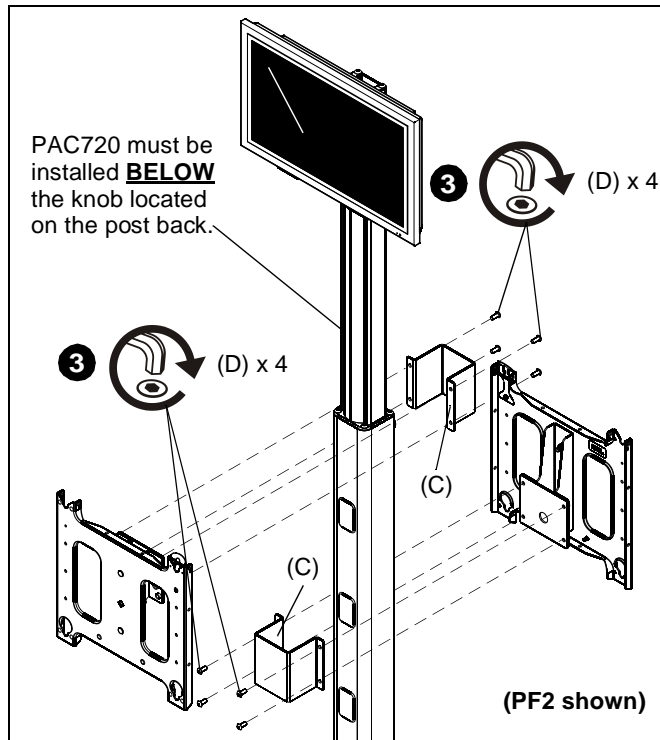

Figure 4
3. Secure faceplate assemblies with bracket to clamp brackets (C) onto cart/stand post using four 5/16-18 x 3/4" buttonhead cap screws (D) on EACH assembly. (See Figure 4)